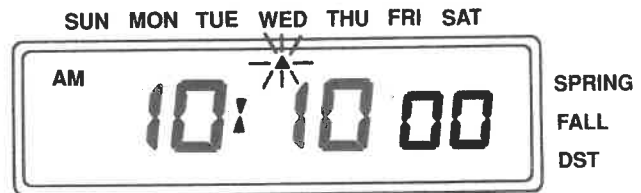

Figure 50
1. Depress [TIME], see Figure 50 for display.